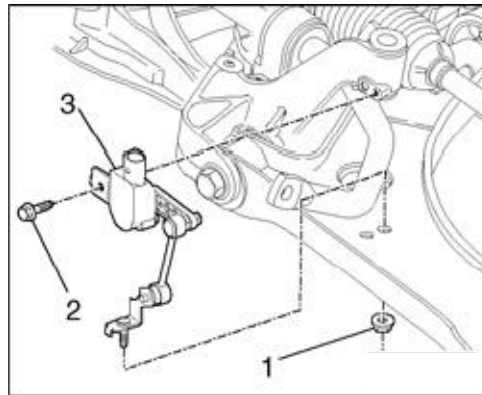

fig. 2
*If the vehicle is equipped with Automatic Headlight Vertical Aim Control, detach the unit from the lower control arm (fig. 2 - part 1 pictured) to prevent overextension.*